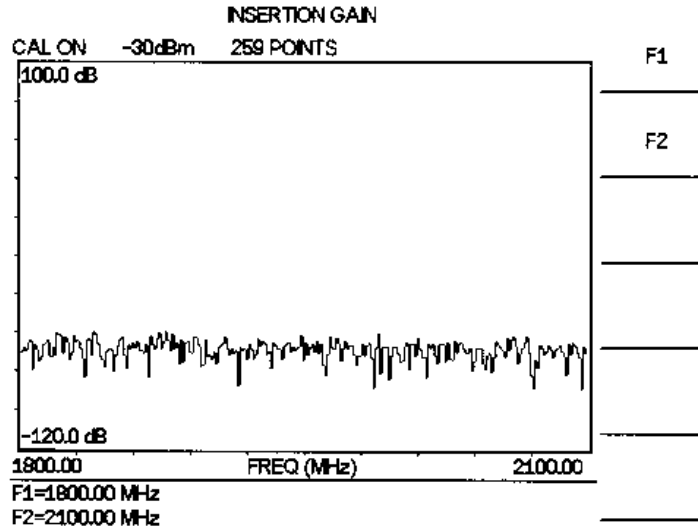

Figure 4-19. Measurement Display Before Amplifier Connection
**Step 12.** Disconnect the 7/16(f) adapter. The resulting display should be similar to Figure 4-19